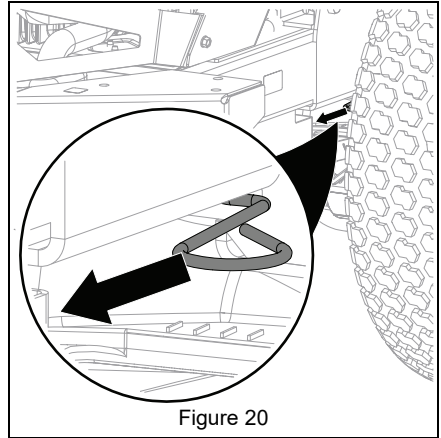

Figure 20
2. Pull both transaxle bypass levers out into bypass position. See Figure 20.